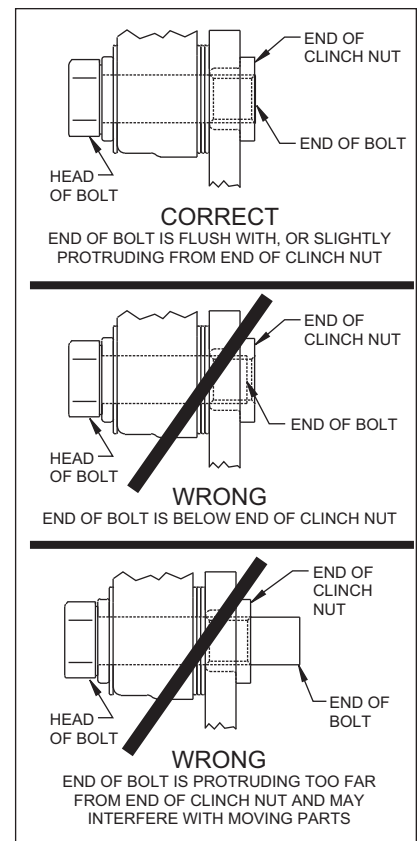

Figure 5.
- Install the dust cap (14) onto the hub (4). Friction created by the o-ring (13) on the dust cap (14) keeps it from unscrewing. The O.D. of the existing spindle washer may be larger than the I.D. of the dust cap (14) which may allow the washer to contact the dust cap (14). Use the spindle washer (12) supplied with the kit instead of the stock washer.
•**NOTE:** Please reference the caution statement at the beginning of the assembly instructions. Mount the caliper (15) onto the caliper bracket (1) using two bolts (17), two washers (16), two flat "shim" washers (18) and four flat washers (19). Finger tighten. View the rotor (8) through the top of the caliper (15). The rotor (8) should be aligned in the center of the caliper (15). If not, loosen the two bolts (17) and adjust the caliper (15) by using 0.032 inch thick shim washers (18). The shim washers (18) should be placed between the caliper (15) and the flat washers (19). Finger tighten and recheck alignment. Add as many shim washers (18) as necessary to achieve the correct alignment. **NOTE:** The end of the bolt must be flush with or slightly protruding from the head of the clinch nut. See Figure 5. Place spare shims (18) between washer and caliper mounting ear to achieve the proper mounting fastener configuration. Always use the same amount of shims on both the top and bottom caliper mounting bolts (17). Loosen the two bolts (17) and apply red *Loctite*® 271 to bolt threads (17) and torque to 40 ft-lb. Safety wire the two bolts (17).
- Install the disc brake pads (20) into the caliper (15). Secure the disc brake pads to the caliper utilizing cotter pin (21).